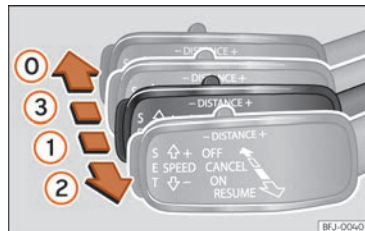
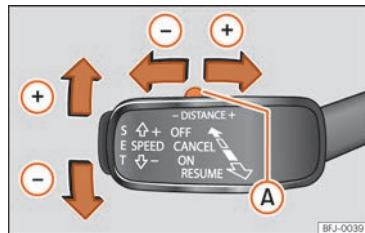

Fig. 266 On the left of the steering column: third lever for operating the Adaptive Cruise Control.
Fig. 267 On the left of the steering column: third lever for operating the Adaptive Cruise Control.
Once you are driving, if you wish to set the current speed as the vehicle's cruise speed and activate the ACC, press the **SET** »» Fig. 267 button. If you wish to increase or reduce speed by intervals of 1 km/h (0.6 mph), move the lever to position ② »» Fig. 266 or press the **SET** button, respectively.
To increase/reduce the distance level, press the rocker switch towards the left/right »» Fig. 267 A.
- To activate the ACC, with the third lever in position ① press the **SET** button or move the third lever of the ACC to position ② »» Fig. 266. At this point, the image of the
To disconnect the ACC move the lever to the ① position »» Fig. 266 (engaged). An **ACC deactivated** message appears and the function is totally deactivated.
If you do not wish to disconnect the ACC, just to switch it temporarily to inactive mode (Standby), move the third lever to position ③ »» Fig. 266 or press the brake pedal.